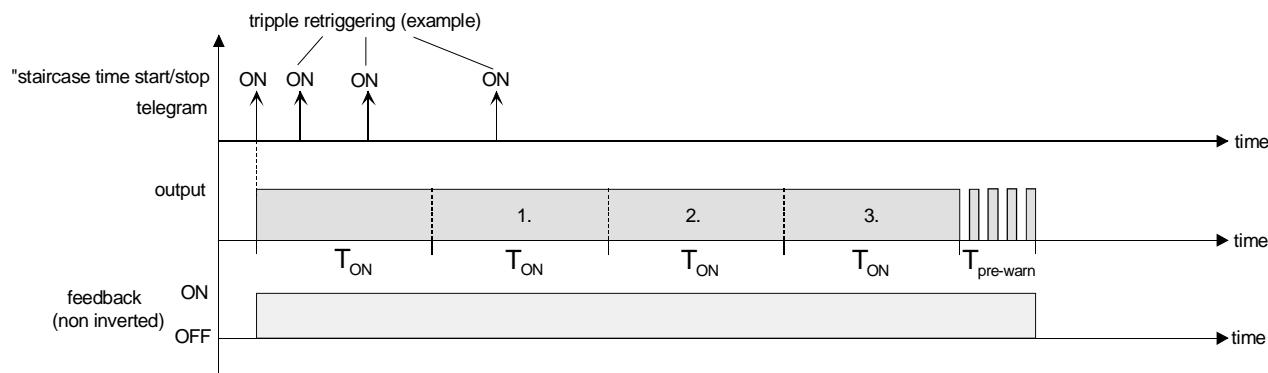

Fig. 14: Time extension for staircase lighting function
With the time extension function, the staircase time can be retriggered several times (i.e. extended) via the "Staircase function start/stop" object. The duration of the extension is defined by repeated operation of a control device (several ON-telegrams in succession). The parameterized staircase time can thus be extended by the parameterized factor (max. 5-fold). The extension is then always automatically added to the end of a simple staircase time ( $T_{ON}$ ) (cf. Fig. 14).
- Set the parameter "Supplementary function for staircase function" on parameter page "Ax – Staircase function" to "Time extension" and select the desired factor in the "Maximum time extension" parameter. On reception of an ON-telegram to the "Staircase function start/stop" object, the staircase time is retrigged at the end of the  $T_{ON}$  time as often as determined by the number of telegrams received, however, no longer as permitted by the parameterized factor. Thus, the setting "3-fold" means that the started staircase time can be automatically retrigged at maximum three more times after elapsing. This means that the time corresponds to 4 times the basic time (cf. Fig. 14).